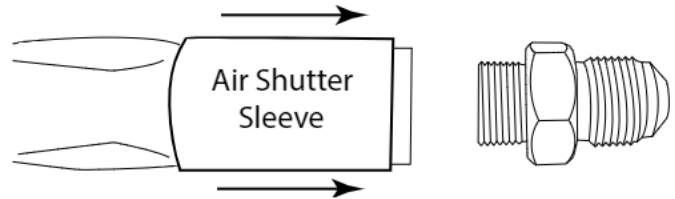

Fig. 12. Natural gas setting; air shutter sleeved installed.
Step 6: After the main burner orifice and brass fitting is removed then slide the air shutter sleeve off the burner tube and expose the hole for the LP gas (Figs. 12 & 13).